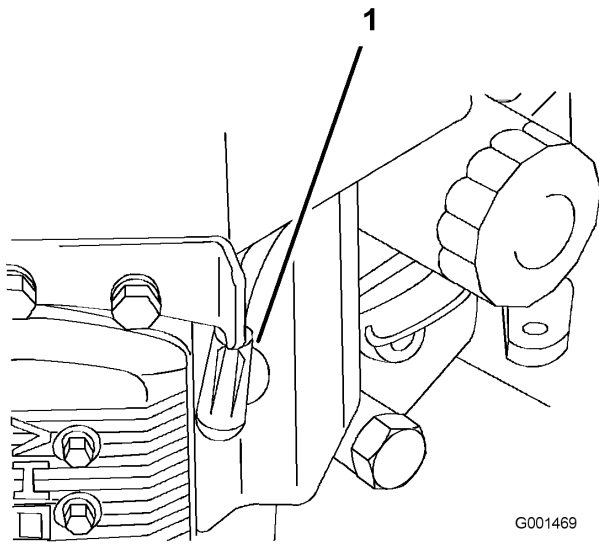

Figure 25
3. Disconnect the wires from the spark plugs (Figure 25).